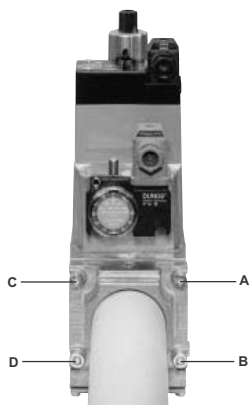
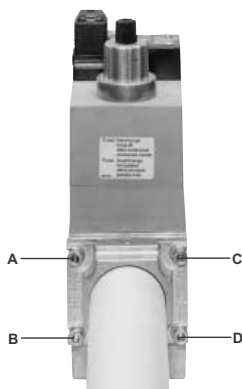

Fig. 10
Fig. 11
1. Loosen screws A and B **do not** unscrew (Fig. 10 - Fig. 11).
2. unscrew screws C and D (Fig. 10 - Fig. 11).